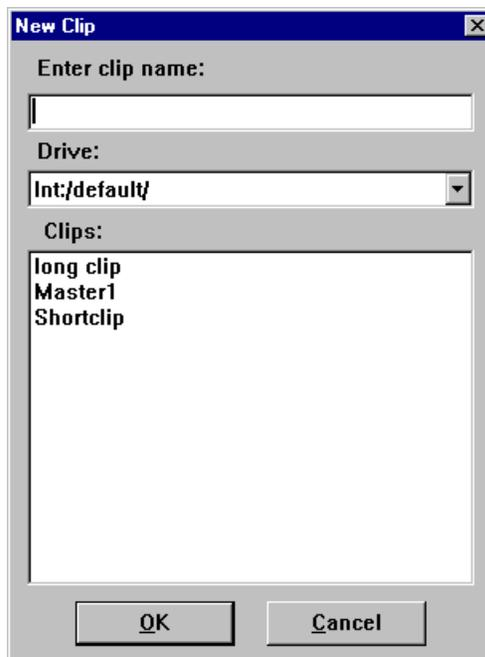

Figure 89. New Clip dialog box
2. Select **VideoClip | New Clip** to open the New Clip dialog box (Figure 89).